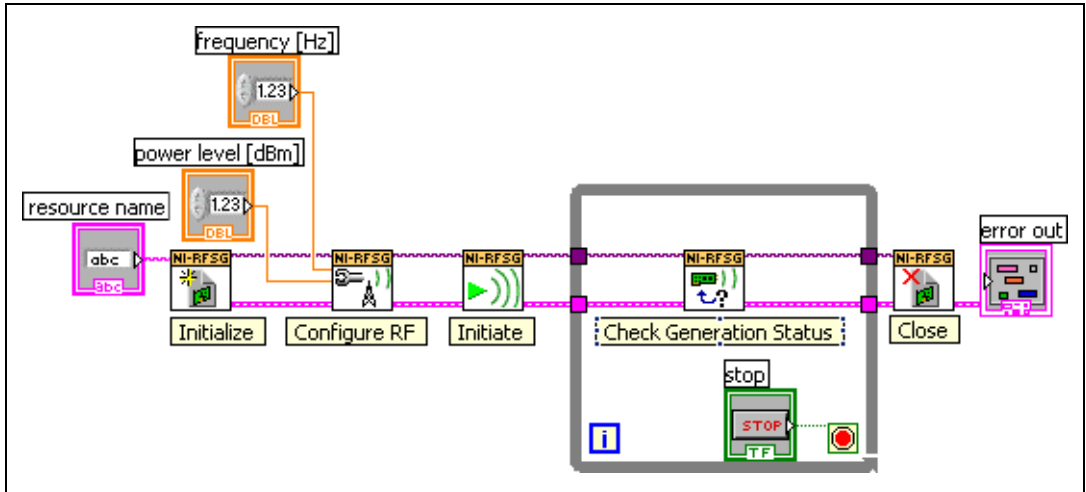

Figure 1-33. Basic Sine Wave Generation VI Block Diagram
19. Verify that your VI block diagram now looks like the example in Figure 1-33.